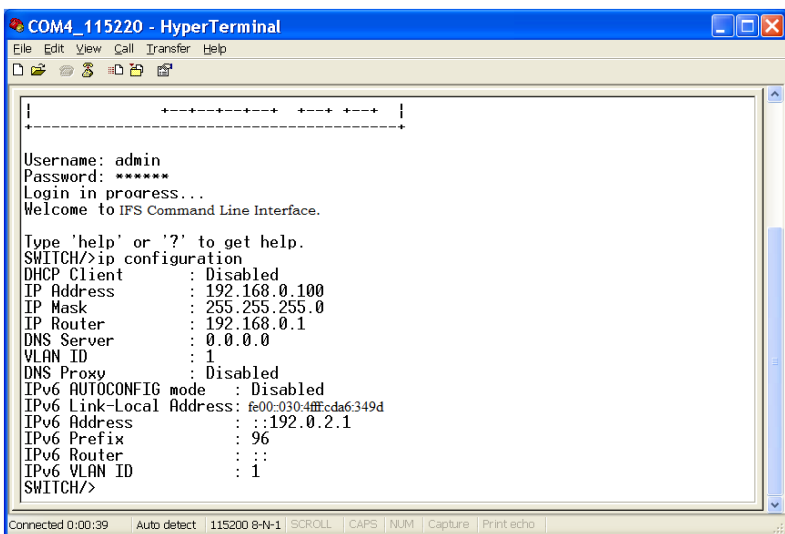

Figure 5-1: Show IP Information Screen
2. The screen displays the current IP address, Subnet Mask and Gateway. As show in Figure 5-1.